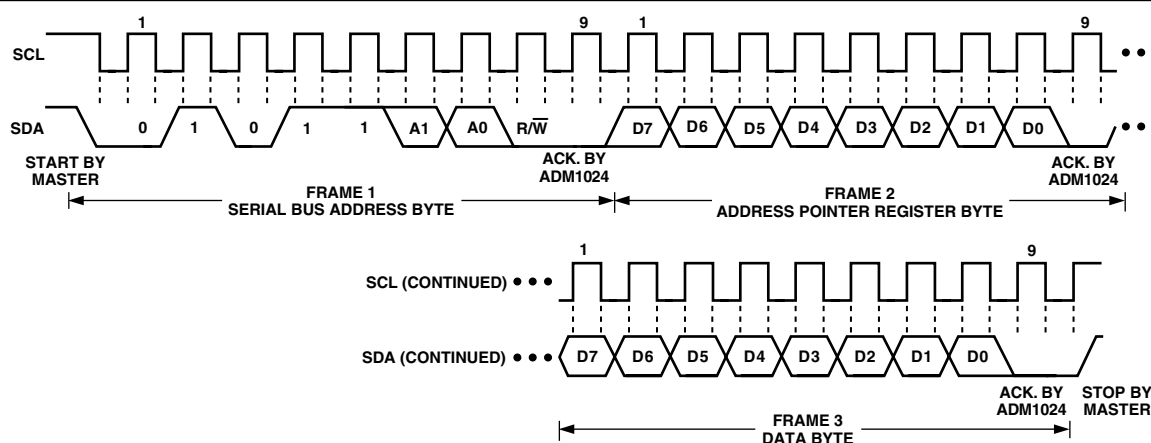

Figure 9a. Writing a Register Address to the Address Pointer Register, then Writing Data to the Selected Register
To write data to one of the device data registers or read data from it, the Address Pointer Register must be set so that the correct data register is addressed, then data can be written into that register or read from it. The first byte of a write operation always contains an address that is stored in the Address Pointer Register. If data is to be written to the device, the write operation contains a second data byte that is written to the register selected by the address pointer register. This is illustrated in Figure 9a. The device address is sent over the bus followed by R/\overline{W} set to 0. This is followed by two data bytes. The first data byte is the address of the internal data register to be written to, which is stored in the Address Pointer Register. The second data byte is the data to be written to the internal data register.
2. In Figures 9a to 9c, the serial bus address is shown as the default value 01011(A1)(A0), where A1 and A0 are set by the three-state ADD pin.